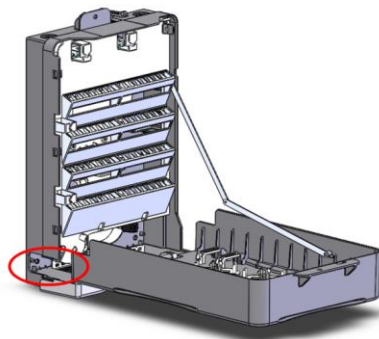

Fig.7
3.3.1. Use pliers to open the base side where the expansion module is installed (Fig.7)